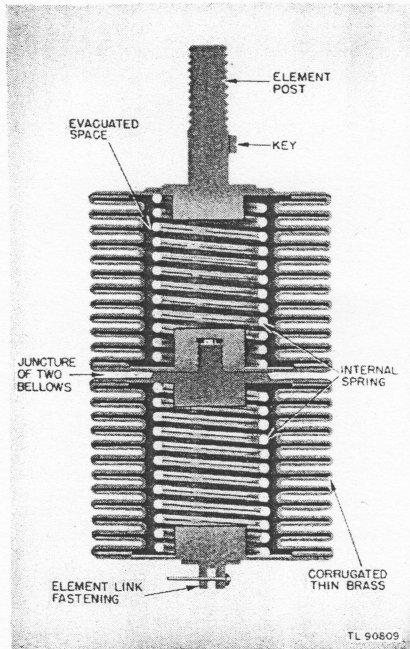

Figure 6. Pressure-sensitive unit, cross-section view.
16. **PRESSURE-SENSITIVE UNIT** (fig. 6). a. The inside of each of the two bellows of the pressure-sensitive unit (par. 4b) is partially exhausted of air and is fitted with an internal spring to prevent collapse.